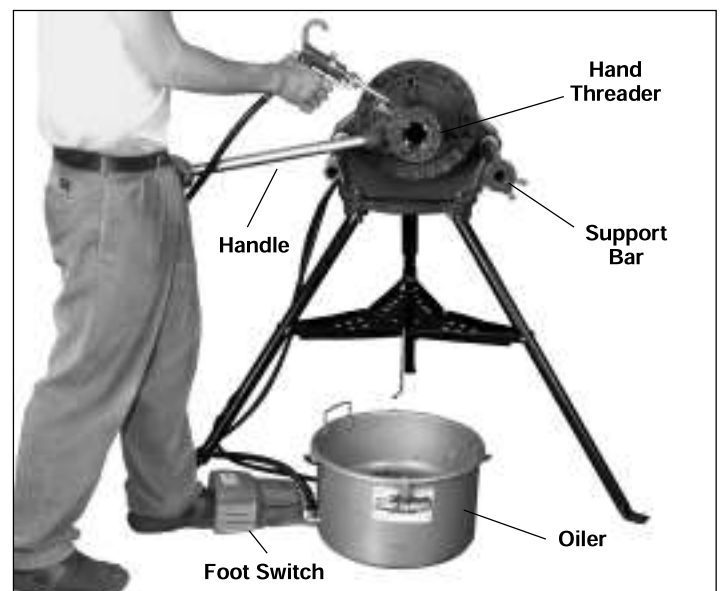

Figure 6
**CORRECT OPERATING POSITION FOR CUTTING, THREADING AND REAMING IS TO STAND ON THE SWITCH SIDE OF THE POWER DRIVE, WITH LEFT FOOT OPERATING FOOT SWITCH. (FIGURE 6)**